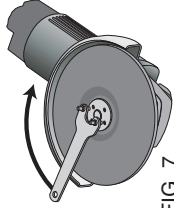

FIG. 7
- Securely tighten the threaded flange with the supplied spanner wrench (Fig. 7).